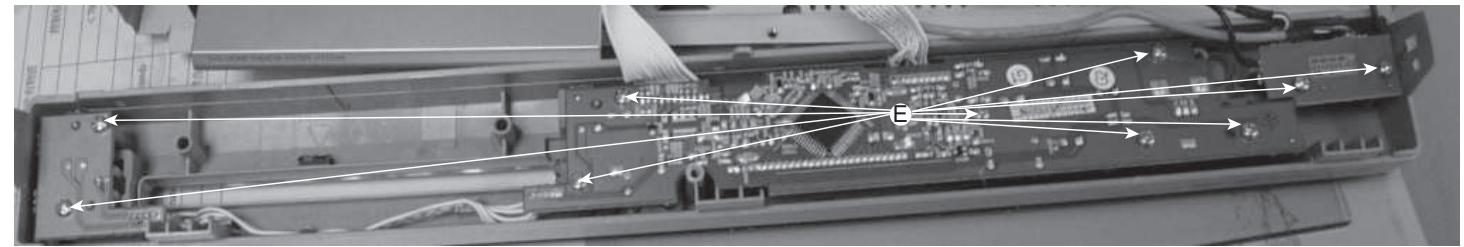

Figure 6
- 1) Loosen 10 screws "E" at the back pance as shown in figure 6